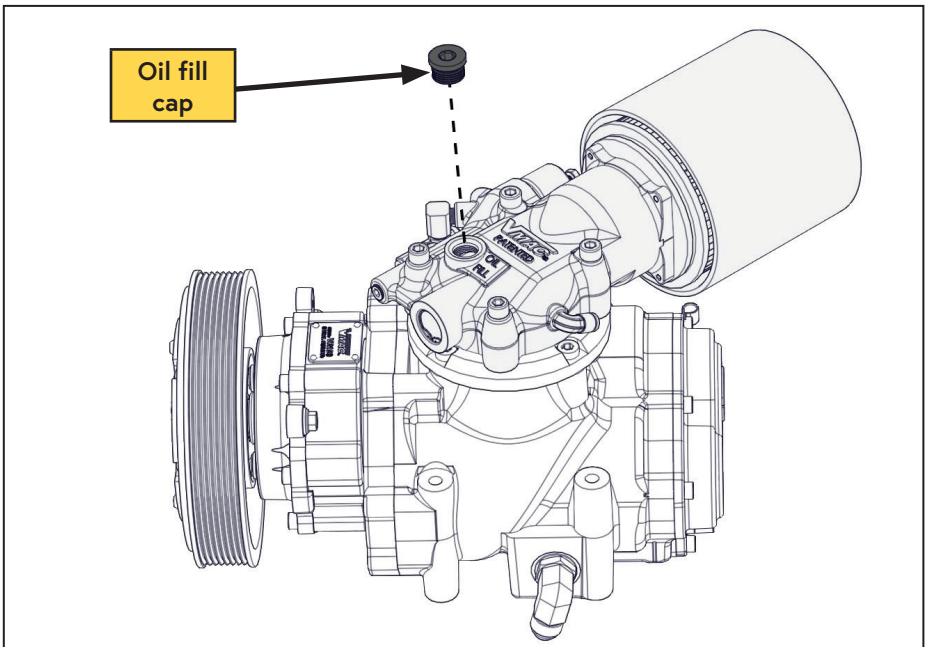

Figure 86 — Oil fill location
- ☐ Remove the cap from the oil-fill port located on the Inlet valve (Figure 86).